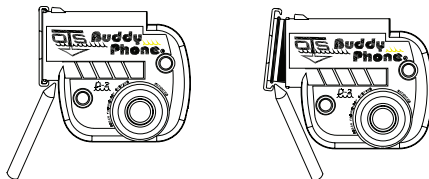

FIGURE 2
1. Using the shaft of a small screwdriver (not the tip or point), pry back the battery plug until the latch releases on one side (Figure 2).